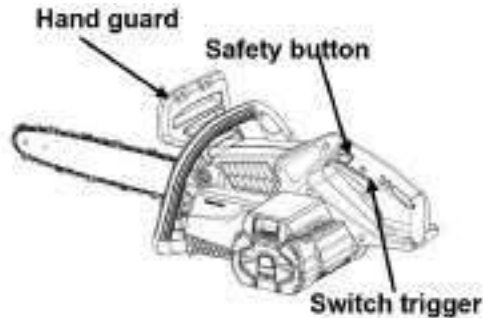

Fig. 4
2. Hold the machine with one hand on each handle. Press the safety button and the switch trigger. Release the safety button once the machine turns on. You must continue to squeeze the switch trigger for continued operation (Fig. 4).
⚠ WARNING! If any emergency happens during operation, immediately push the hand guard forward. (Fig.4)